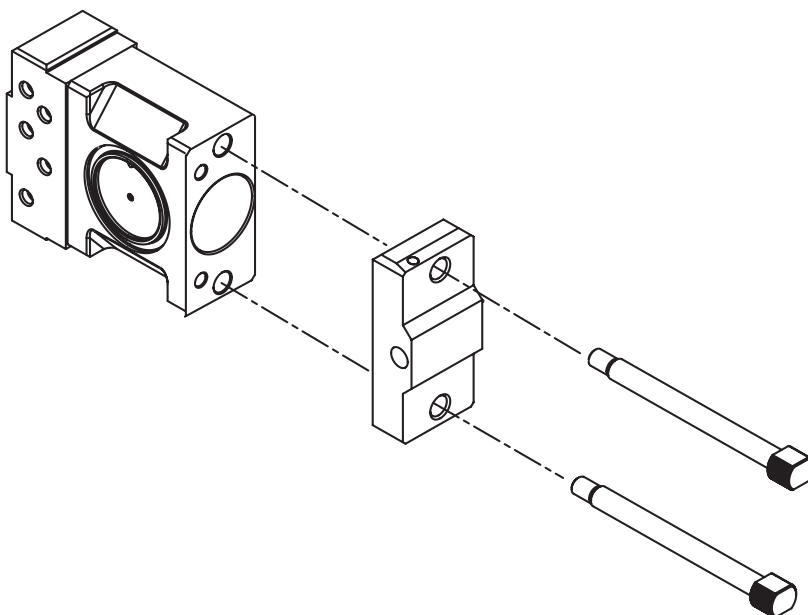

Figure 66. Removing the right endcap and sealing screws
2. Remove the right endcap and sealing screws. See Figure 66.
4. Reinstall the right endcap and sealing screws, as Figure 66 on page 91 shows.